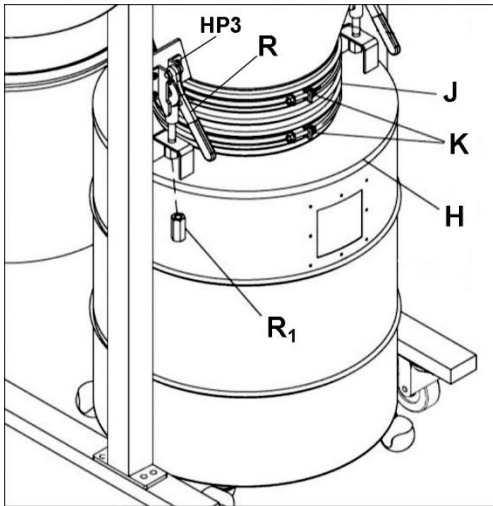

Figure 12
17. Install quick levers into threaded holes on cone flanges, using screws (HP3). See Figure 12
18. Install hose (J) onto cone and drum lid and secure with two hose clamps (K), at top and bottom. See Figure 12.
21. Pull down both quick levers (Q, Figure 12) then assemble drum lid (H, Figure 12) to quick levers. Tighten long nut (Q₁, Figure 12) onto each quick lever.